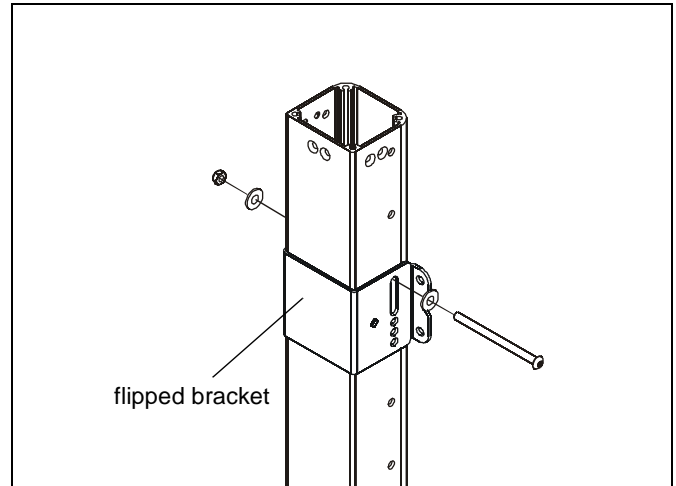

Figure 9
NOTE: Clamp brackets (P) may be flipped in order to use long slots for installation if necessary. (See Figure 9)